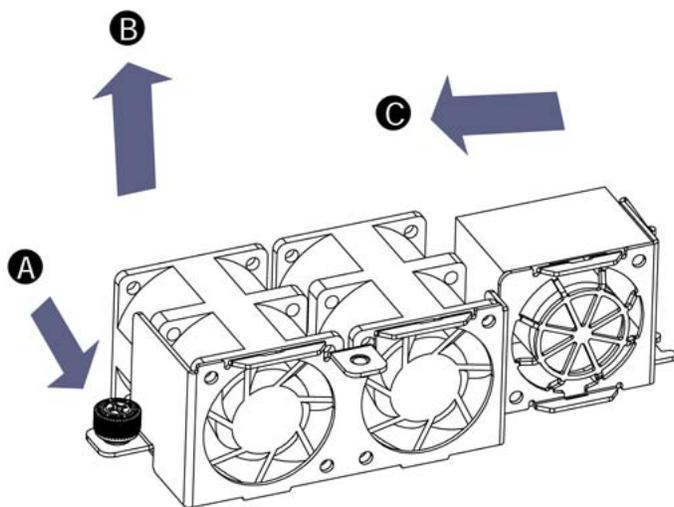

Figure 20: Front fan assembly
5. Remove the captive screw that attaches the front fan assembly to the chassis. For details, see (A) in Figure 20: Front fan assembly on page 81.
6. Lift the left side of the fan assembly. For details, see B in Figure 20: Front fan assembly on page 81.
7. Pull the fan assembly to the left to disengage the hook that holds the right side of the fan assembly. For details, see C in Figure 20: Front fan assembly on page 81.